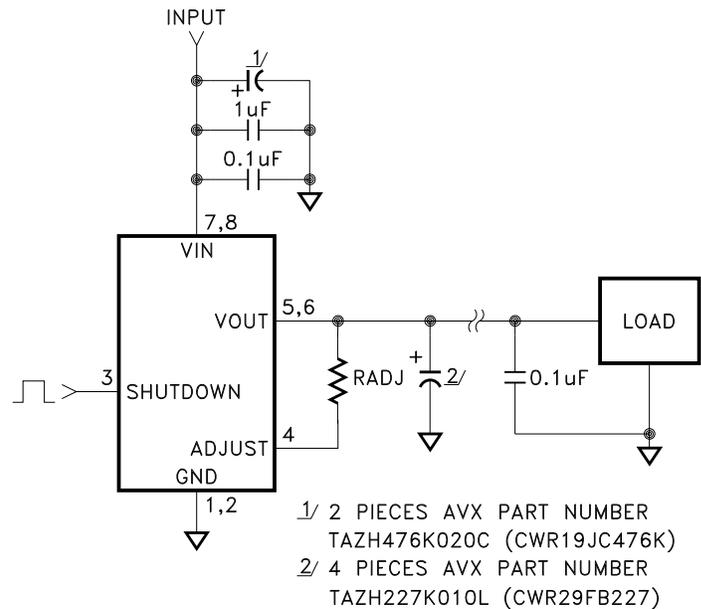

FIGURE 2
- ① Unless otherwise specified, VIN = 3.3V, VSHUTDOWN = 0V and IOUT = 50mA. See figure 2 for typical test circuit.
- ② Guaranteed by design but not tested. Typical parameters are representative of actual device performance but are for reference only.
- ③ Industrial grade devices shall be tested to subgroups 1 and 4 unless otherwise requested.
- ④ Military grade devices ("H" and "K" suffix) shall be 100% tested to subgroups 1,2,3 and 4.
- ⑤ Dropout limited by minimum value of VIN.
- ⑥ Subgroup 1,4 TC = +25°C